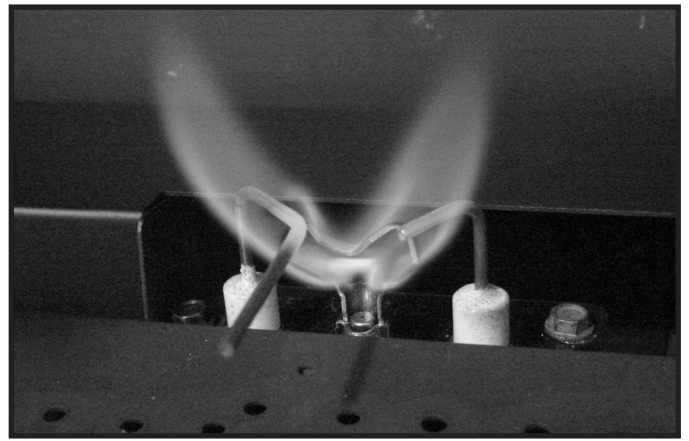

Figure 4.6 IPI Pilot Flame Patterns
- Inspect pilot flame pattern and strength. See Figure 4.6. for proper pilot flame pattern. Clean or replace orifice spud as necessary.